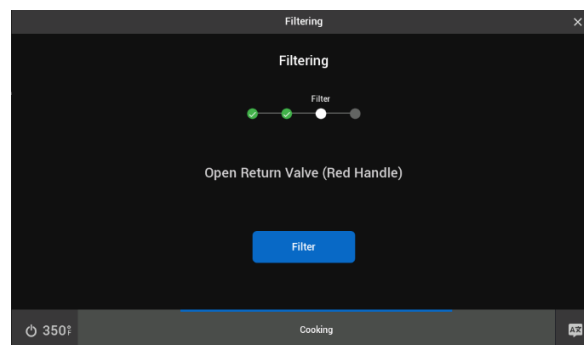

**Figure 79 – Choose Continue or Skip Oil Quality Test**
When draining is complete, the screen will transition to **Figure 79** (*screen will show “Polishing” at the top when polish is chosen*).
- Click  if the operator chooses to continue *with* oil quality test **Figure 79 – Choose Continue or Skip Oil Quality Test**